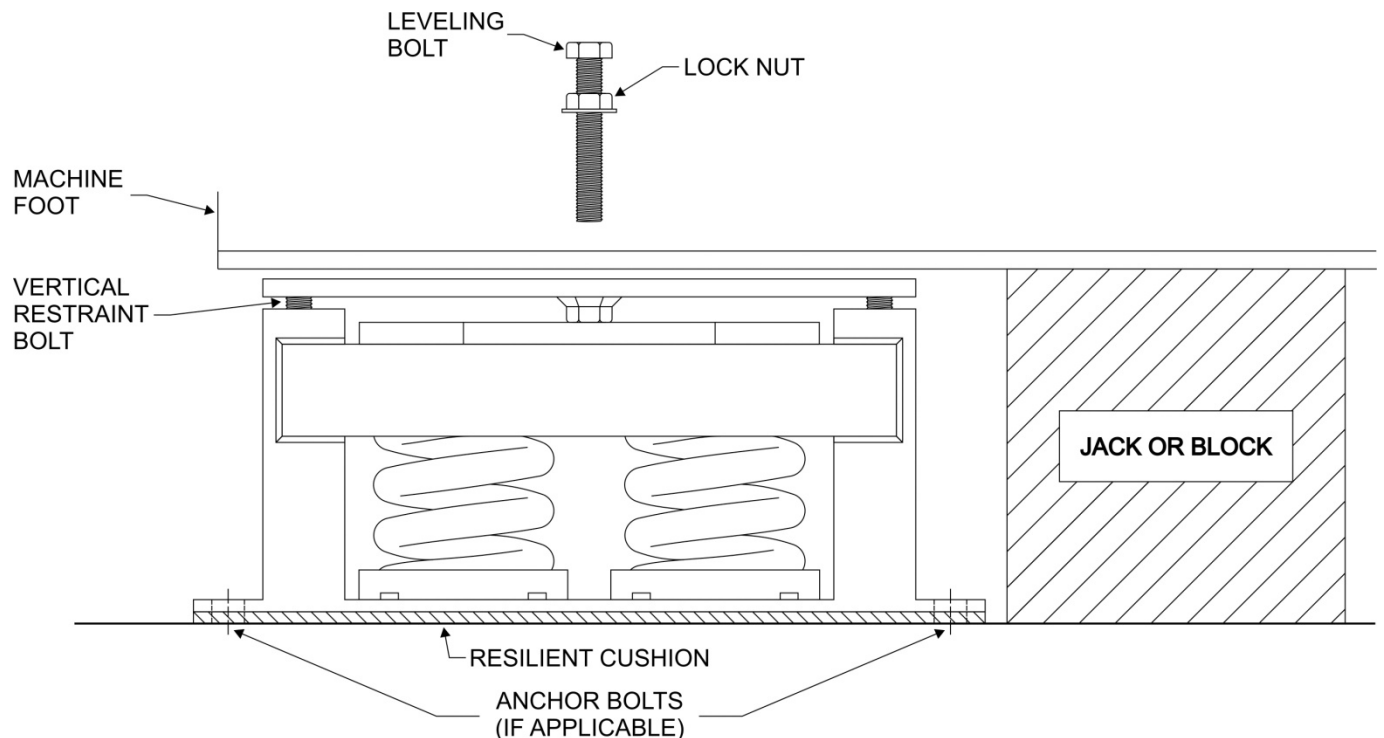

Figure 1
4. After the Vibro/Dynamics Isolators are in position, the machine base should be rough leveled and aligned using jacks or steel blocks and shims at an elevation just above the top of the isolator. (See Figure 1)